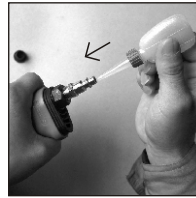

Figure 5
4. Place 2-3 drops of airtool oil (not included) into the male plug before each use. (See Figure 5)